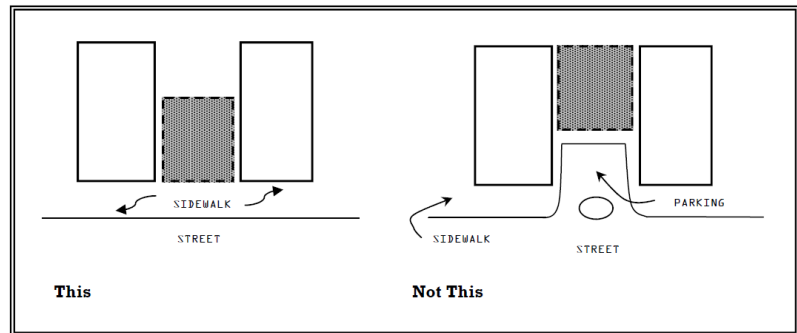

Figure 9 – Building Setback
B. **Building Setback:** A new infill building should maintain the line of existing storefronts at the sidewalk edge. Creating gaps in the streetscape by setting the building too far back from its neighbors, or by placing off-street parking in front of a building is not permitted (see Figure 9).